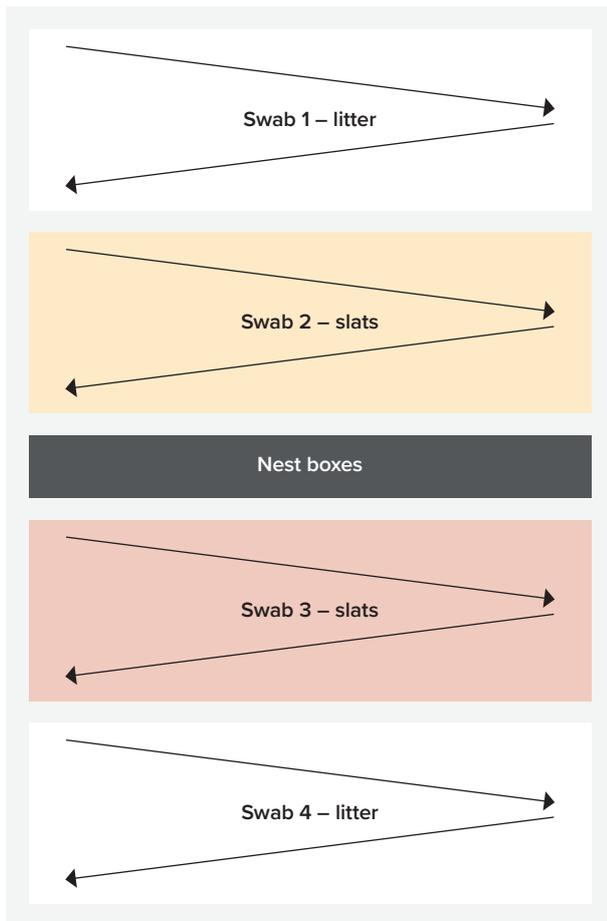

Figure A8 - Sampling pattern
- Hold “Swab 1” by the string and drag it twice the full length of one side of the litter area in the pattern described in Figure A8.
- Walk down the slatted area, dragging the “Swab 2” over the top of the slats in the manner shown in Figure A8 by the arrow “Swab 2”.
- When the end of the slats is reached for the second time, retrieve “Swab 2”, cut the string with a pair of scissors and place swab in the Whirl-Pak® bag or screw top plastic jar. Follow the same procedure for the other side of the shed, as shown in Figure A8 by the arrows for “Swab 3” and “Swab 4”.